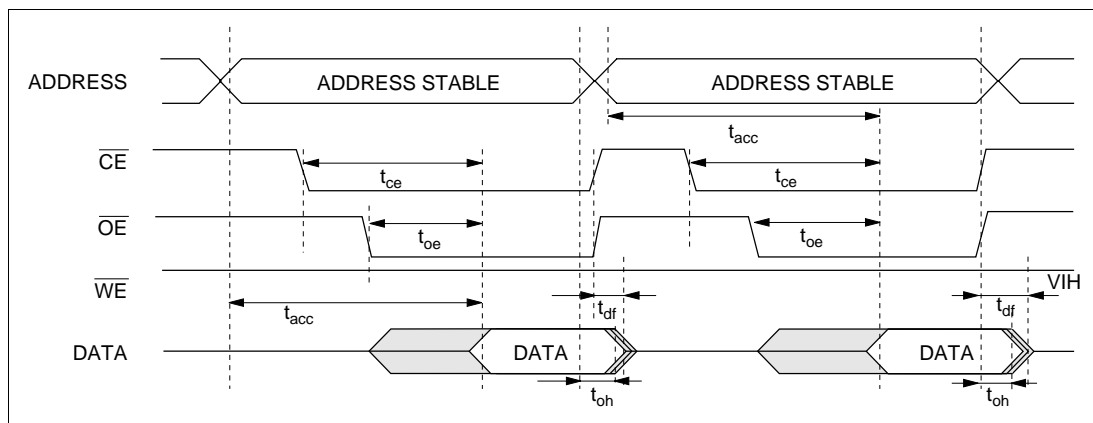

Figure 6.20 Timing Waveforms for $\overline{\text{CE}}$, $\overline{\text{OE}}$ Clocked Read
(2) Notes on Use of Auto-Program Mode
- Memory address transfer is performed in the second cycle (figure 6.20). Do not perform transfer after the second cycle.
(1) AC Characteristics